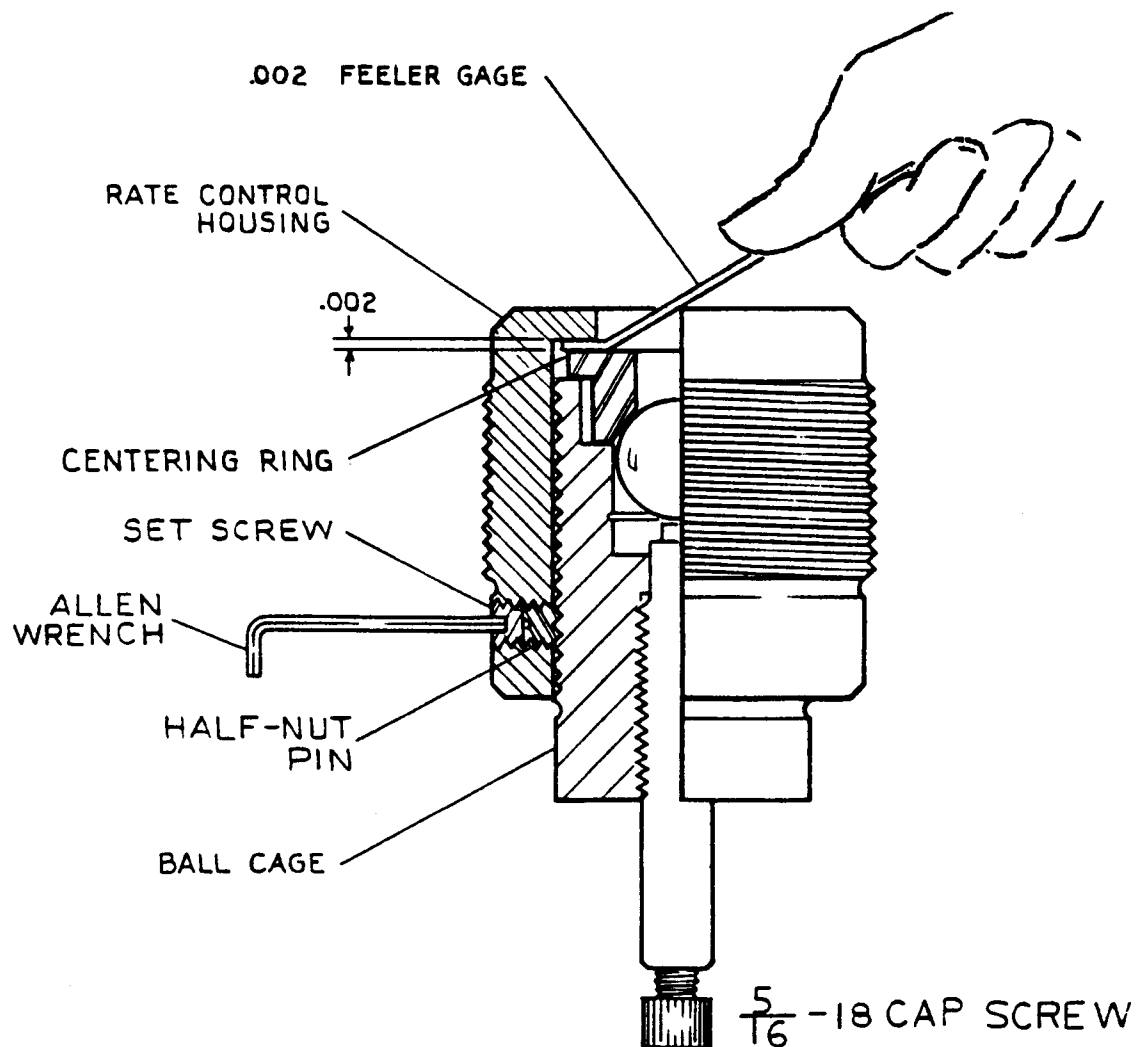

Figure 8. Center Ring Setting
5. Screw 360 Rate Control Ball Cage (18) into 360 Rate Control Housing (30) until it touches Centering Ring (26); then unscrew ball cage 1/2 turn.
6. Lightly tighten Set Screw (16) as 360 Rate Control Ball Cage (19) is rotated back and forth to set the threads of Half-Nut Pin (17) firmly into the threads of 360 Rate Control Ball Cage (18).
7. With Set Screw (16) snug (not tight) against ball cage half-nut pin, screw in (right) 360 Rate Control Ball Cage (18) until Centering Ring (26) cannot be moved from side to side when a .002 feeler is inserted between the inner flange of 360 Rate Control Housing (30) and bottom (lower) surface of Centering Ring (26) (see figure 8, Center Ring Setting).